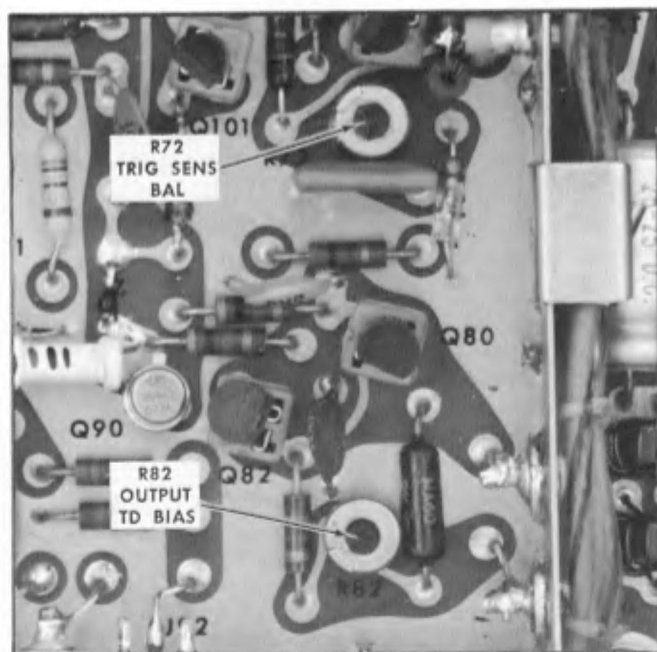

Fig. 7-8. Location of Trigger Recognizer circuit adjustments, right side of instrument, on the Trigger Board Assembly.
d. Adjust R82, OUTPUT TD BIAS, for 8 to 12 cycles ahead of the negative step as in Fig. 7-7B with the TRIG SENSITIVITY control fully clockwise and for no display with the TRIG SENSITIVITY control fully counterclockwise. Adjust R72, TRIG SENS BAL, for the appearance of the negative step as in Fig. 7-7A at the 12 o'clock position of the TRIG SENSITIVITY control. Location of the adjustment is shown in Fig. 7-8.